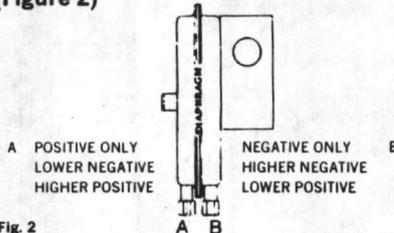

Fig. 2
AIR SAMPLING CONNECTIONS (Figure 2)
Refer to Figure 2 to identify the high pressure inlet (A) and the low pressure inlet (B), and connect the sample lines as follows: